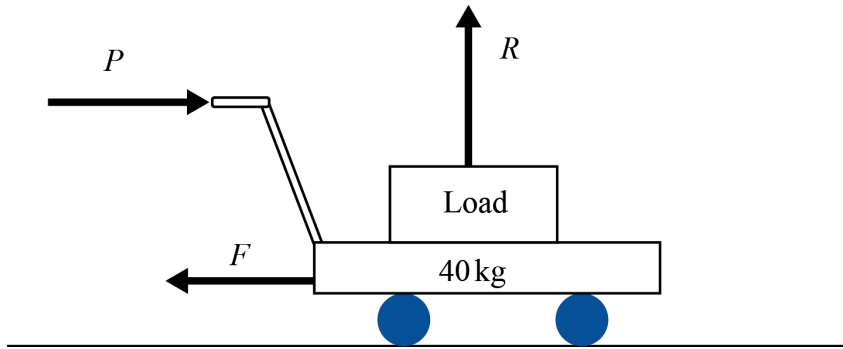

Fig. 5
- 4 **Fig. 5** shows a diagram of a trolley used to transport components around a factory. The trolley has a mass of 40 kg, while the mass of the load varies. The total normal reaction force of the floor on the trolley is R N. The trolley is being pushed with a horizontal force of P N. There is also a resistance force, F N = $0.2 \times R$ N acting in the opposite direction to P .